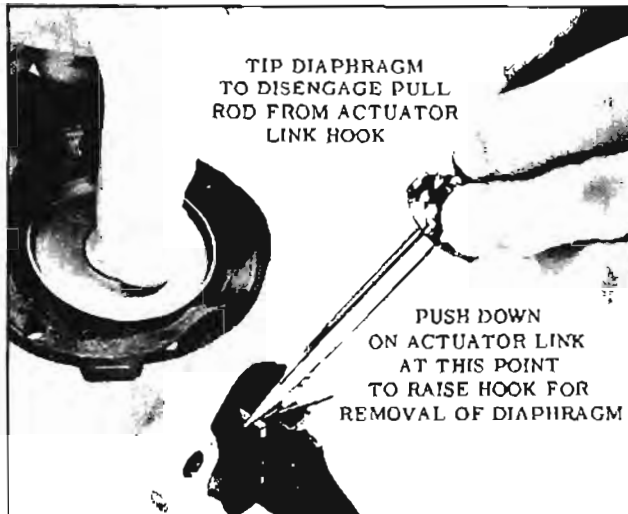
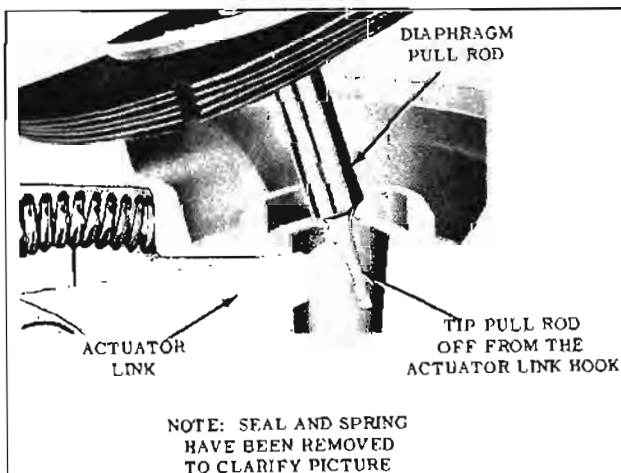

Fig. 8-180 Disengaging Diaphragm
Fig. 8-181 Diaphragm Removal
4. Loosen six (6) cover screws about two turns.
5. Separate fuel cover from body by jarring cover lightly with a plastic hammer. Remove all but two (2) attaching screws.
6. Holding the cover down against the diaphragm spring pressure, remove the two (2) remaining cover screws and cover. Carefully separate the diaphragm from cover.
8. Push down on the end of the actuator link. (Fig. 8-180) This will hold the link up so that the diaphragm assembly may be tipped off of the link hook. (Fig. 8-181) To disconnect the diaphragm from the link, push down and away from the rocker arm side of pump.
3. Place spring over pull rod seal. Hold the fuel link up against the seal, as shown in Fig. 8-181, then install the diaphragm by inserting the pull rod through the spring and pull rod seal. With the flat of pull rod at a right angle to the fuel link, hook rod to link.